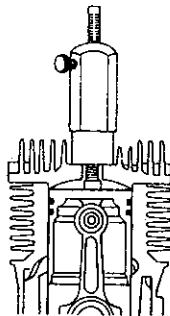

Figure 22
- F. Find Top Dead Center (TDC) while rotating the crankshaft. (See Figure 22.)